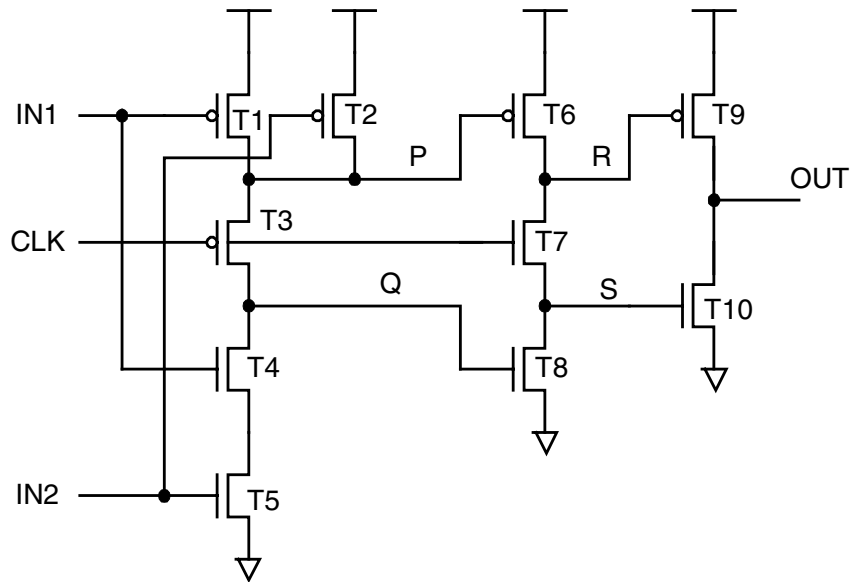
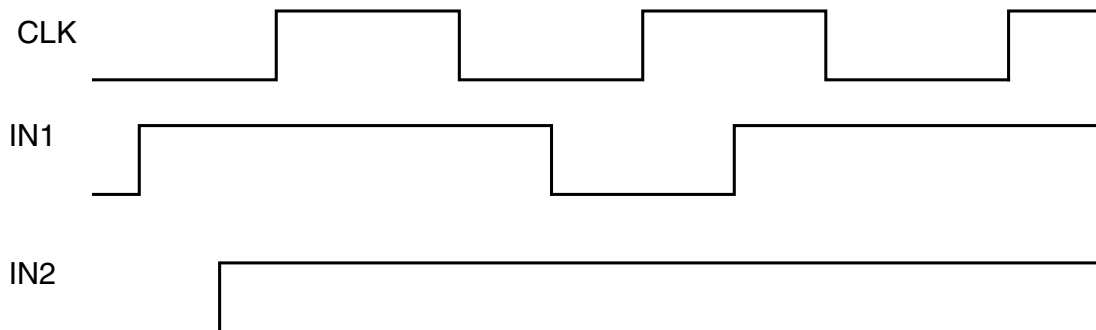

Figure 2a
Figure 2b
3. a) *Figure 2a* shows the transistor-level schematic diagram of a sequential circuit. Given that the timing diagram for the input signals CLK, IN1 and IN2 is as shown in *Figure 2b*, draw the timing diagram for the signals at P, Q, R, S and OUT. Label your timing diagram indicating the various states of the signal nodes as as:
- driven low* (DL) - a path to ground exists,
- driven high* (DH) - a path to Vdd exists,
- weak low* (WL) - a path to ground through a p-channel transistor exists,
- weak high* (WH) - a path to Vdd through a n-channel transistor exists,
- charged low* (CL) - high impedance with no stored charge, and
- charged high* (CH) - high impedance with stored charge at Vdd.